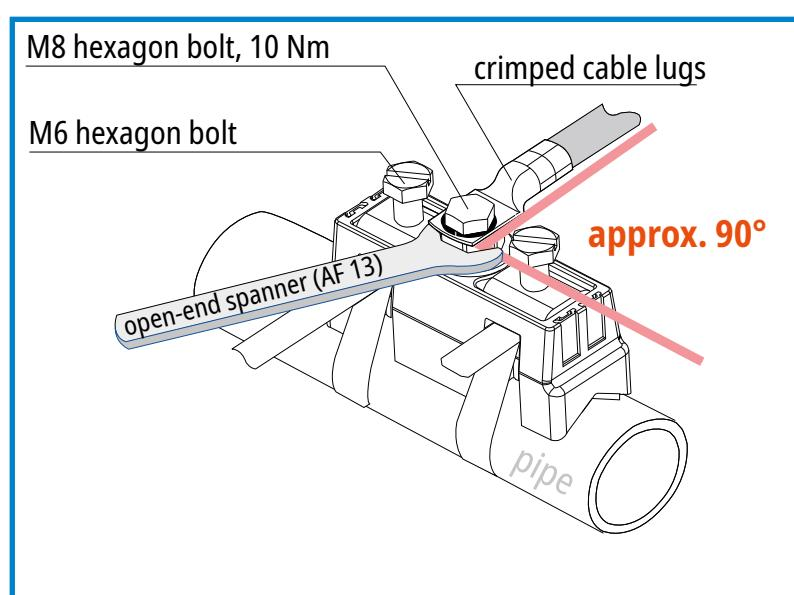

Fig. 3.4 Connection via crimped cable lug
- ⇒ When connecting the conductors (via crimped cable lug) to the **Ex-BRS 27** pipe clamp by tightening the M8 bolt, the contact pin must be held in place using an open-end spanner (width across flats 13) (tightening torque 10 Nm). It must be ensured that the conductor to be connected, including the crimped cable lug, does not contact the clamping unit (M6 hexagon bolt, grip head and tensioning strap) or the pipe (see Fig. 3.4).